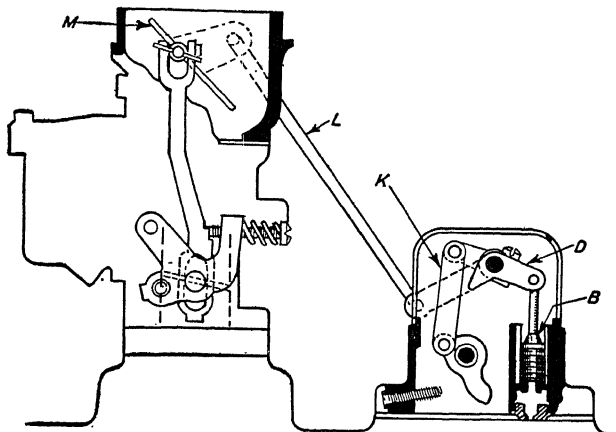

Fig. 161. Intermediate Idle Control
**Engine Warm—Intermediate Idle.** As soon as the engine starts to fire, the manifold vacuum pulls the piston *B* down, Fig. 161. Lever *D* is forced down and breaks linkage *K* to move rod *L*. This partially opens the carburetor choke valve *M* to admit air for proper running mixture. As the engine warms up, the choke valve is opened entirely by the inrushing air as the tension of the thermostat becomes weakened from the heat of the exhaust manifold.